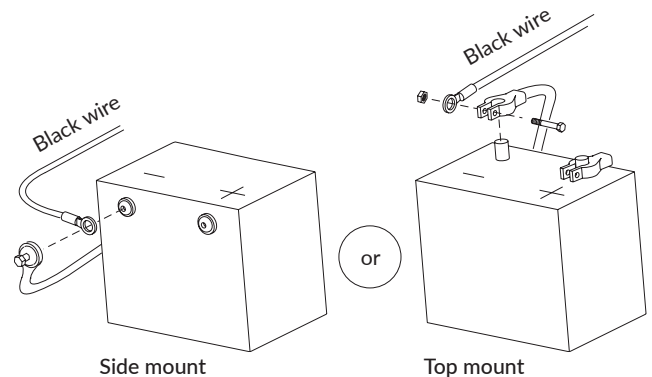

Figure 4-2
2. Start routing the wiring harness at the vehicle's battery. Join the black wire to the negative terminal on the battery. **DO NOT** attach the red wire until the very end of the installation process. *See Figure 4-2.*